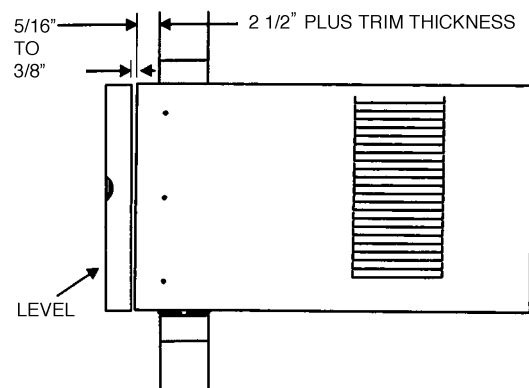

FIGURE 23 — CABINET LOCATION IN WALL
13. Slide the empty cabinet into the wall opening and into wooden frame. Approximately 2½ in. of the cabinet should be in the room. The rest of the cabinet should be positioned through and outside the wall. See Fig. 23. Maintain proper slope for condensate drain operation. Bottom rail should be resting firmly on bottom board of wooden frame.